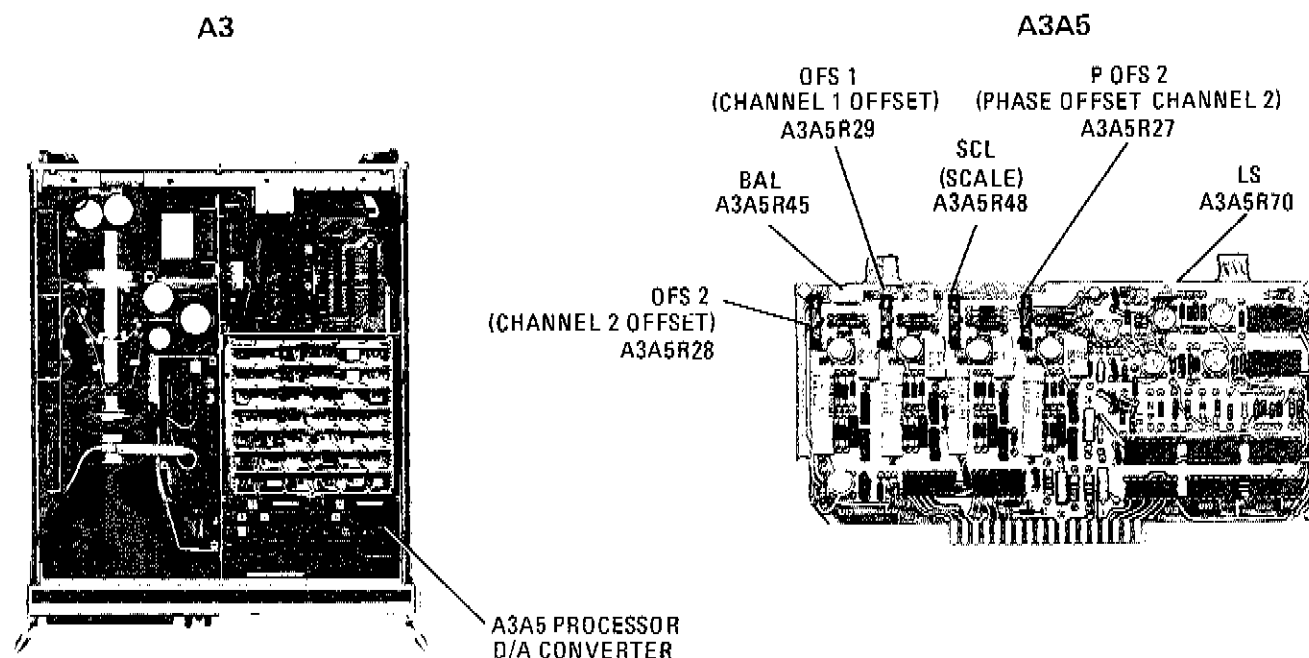

Figure A5-18. A3A5 Processor Digital-To-Analog Converter Adjustment Locations
- d. Connect Digital Voltmeter (DVM) to A3A5TP4 and adjust "OFS 1" (Channel 1 offset) control A3A5R29 for 0.000 Vdc  $\pm$  0.001 Vdc. (See Figure A5-18.)